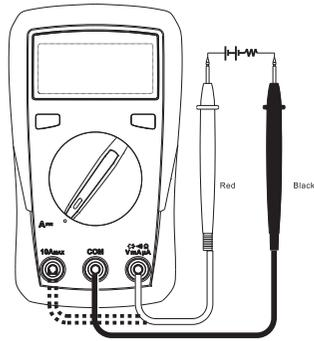

Figure 3
5. DC measurement (see Figure 3)